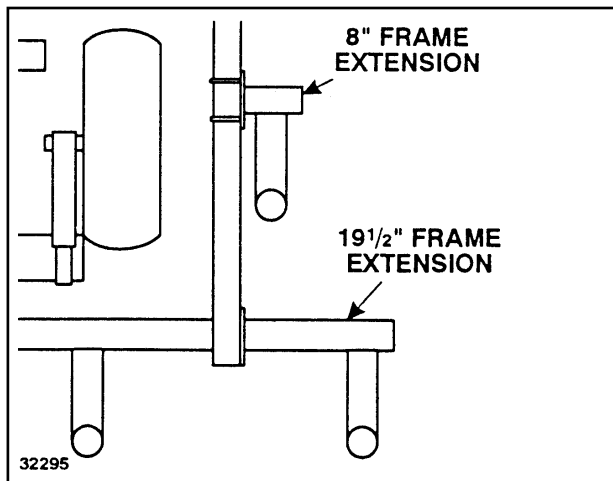

Figure 3-12 - Short Extension
- Short (stub) extensions, 8" & 19-1/2" (**See Figure 3-12**).